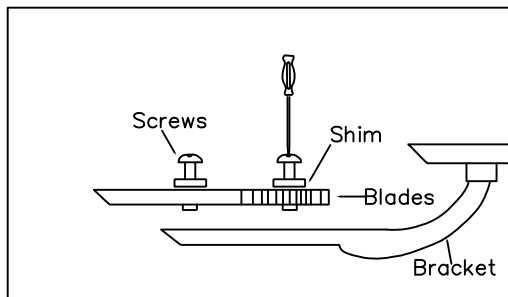

Figure 1
1) Fix the bracket and fan blade with screws in turn.(Figure 1)